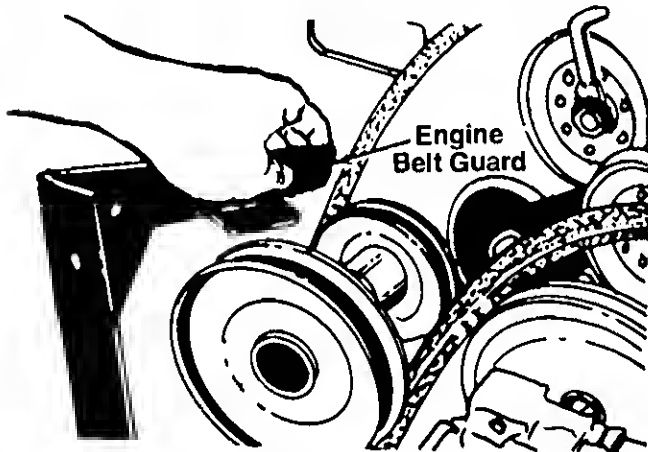

FIGURE 19.
7. Remove two hex bolts, nuts and lock washers from the engine pulley belt guard at lawn tractor frame to allow the engine pulley belt guard to drop down out of the way. See figure 19.